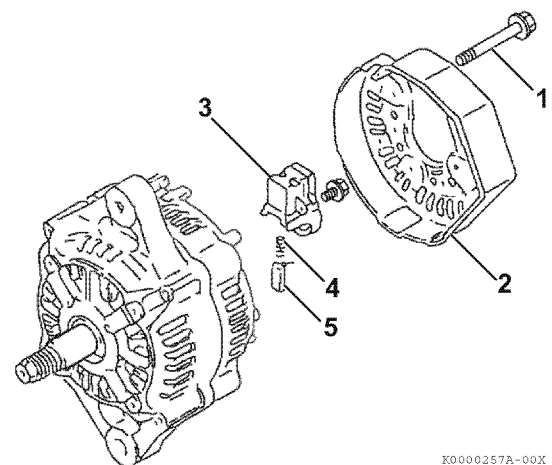

Figure 11-17
8. Install the brush holder (**Figure 11-17, (3)**), springs (**Figure 11-17, (4)**) and brushes (**Figure 11-17, (5)**).
10. Install the rear cover (**Figure 11-17, (2)**) to the rear frame housing with three bolts (**Figure 11-17, (1)**).